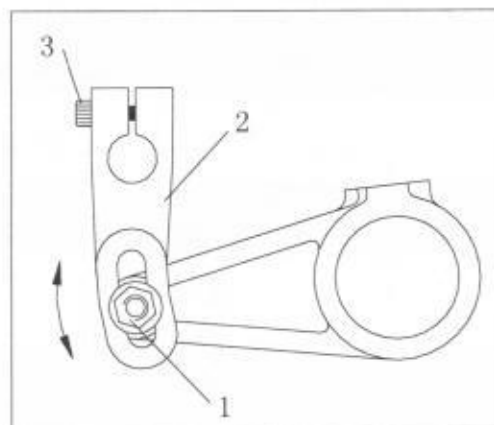

Fig 9
- Loosen the nut 1, move it upward in the buttonhole to increase the presser foot jump. And vice-versa.(Fig 9)